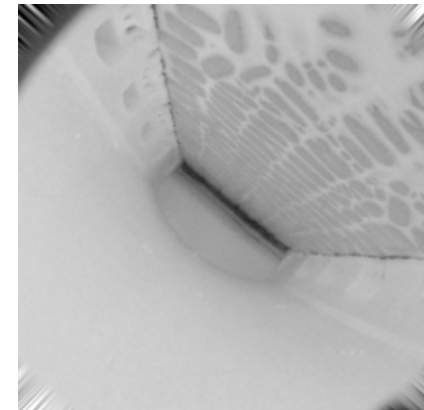

Figure 2. Example of augmented image
- Figure 2: Example of augmented images.